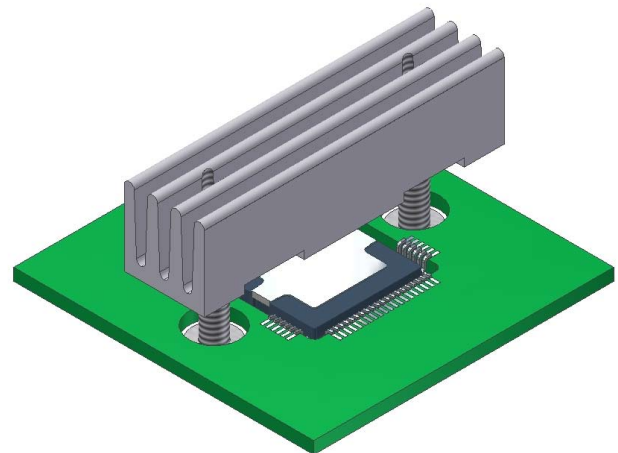

Figure 2 – User Control Features
Figure 2 shows the user control features of the DB63. The PWM duty cycle is controlled with the potentiometer (1 in figure 2). The power LED (2) will illuminate when the 12V supply is connected. The DB63 will power up with the SA57 disabled. The enable button (3) will toggle the SA57 on and off with the LED (4) illuminating to indicate the enable status. Direction of the motor is similarly controlled with the button (5) and is indicated by the LED (6). The DB63 monitors the Temperature warning status pin of the SA57. If this pin goes high an LED (7) illuminates and the enable circuit is forced to a disable status. The temperature LED is not latched and may stay illuminated only briefly while the temperature of the SA57 is above 135°C. The temperature decrease rapidly via the heatsink once the SA57 is disabled. The SA57 current limit feature is set to limit at approximately 15A to provide a demonstration of the full capabilities of the SA57. An LED (8) will illuminate if the SA57 cycle-by-cycle current limit circuit engages. The thermal and current limit features are robust, but will not protect the SA57 in all circumstances. The user must consider the worst case thermal and power dissipation conditions. Push-button switches 1 and 2 trigger latches (U4) for direction and enable control, respectively. Diodes D7 & D8 and resistors R24, 25, 29 & 30 provide a means of bypassing the DB63 control circuit. The 5V regulator, U3, provides 5V to the SA57, the latches and the status LEDs.